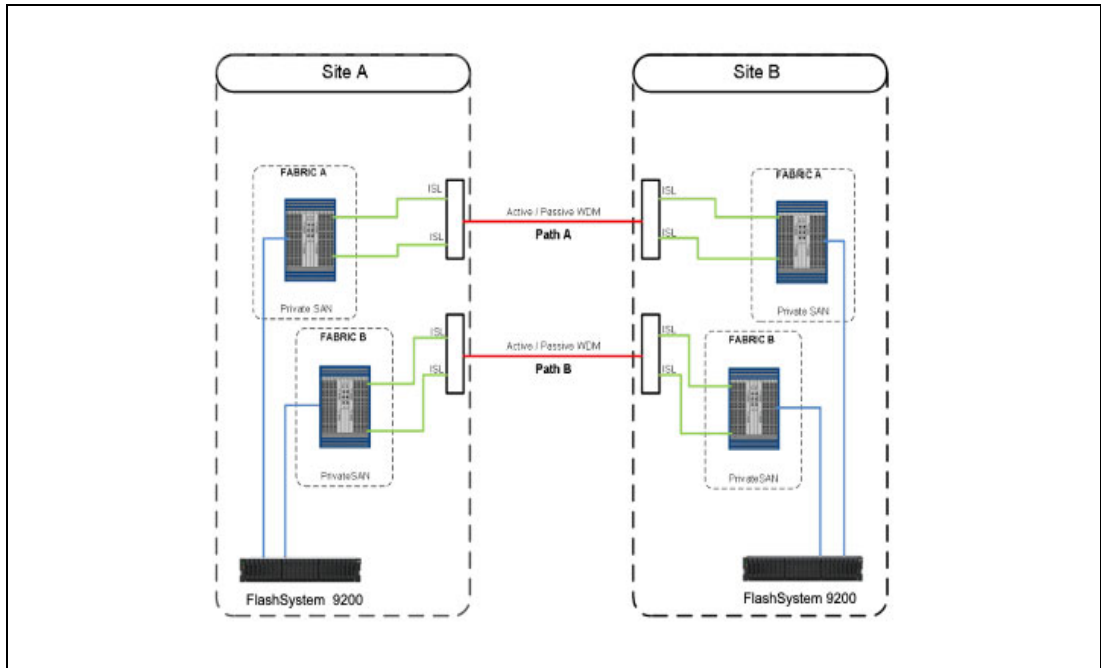

Figure 2-18 Configuration 2: physical paths not shared among the fabrics
- ▶ In Configuration 2, shown in Figure 2-18 on page 59, ISLs of fabric A are attached only to Path A, while ISLs of fabric B are attached only to Path B. In this case, the physical paths are not shared between the fabrics.